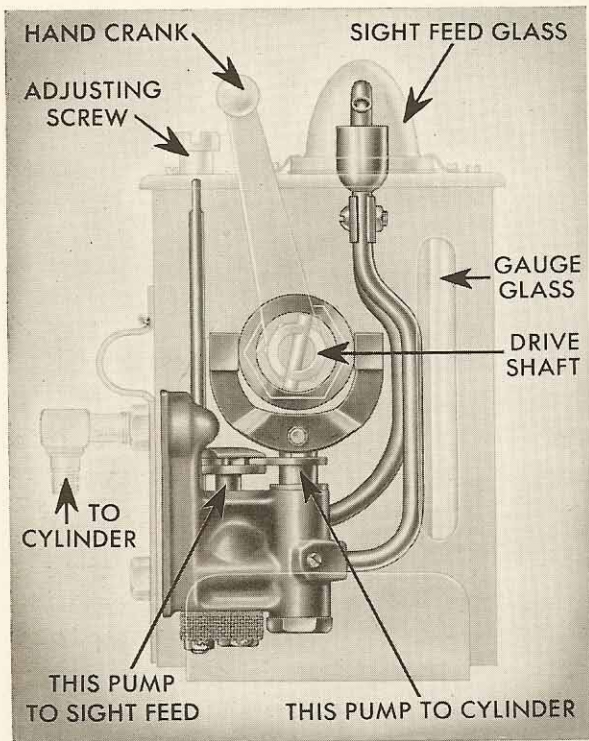

FIGURE 20-9
16. MECHANICAL LUBRICATOR: This lubricator is mounted on the forward cylinder and is driven by an eccentric on the end of the camshaft. It supplies oil to the cylinder liner walls and to the thrust bearing (multi-cooler type only). Figure 20-9 shows the adjusting screw on top of the box.